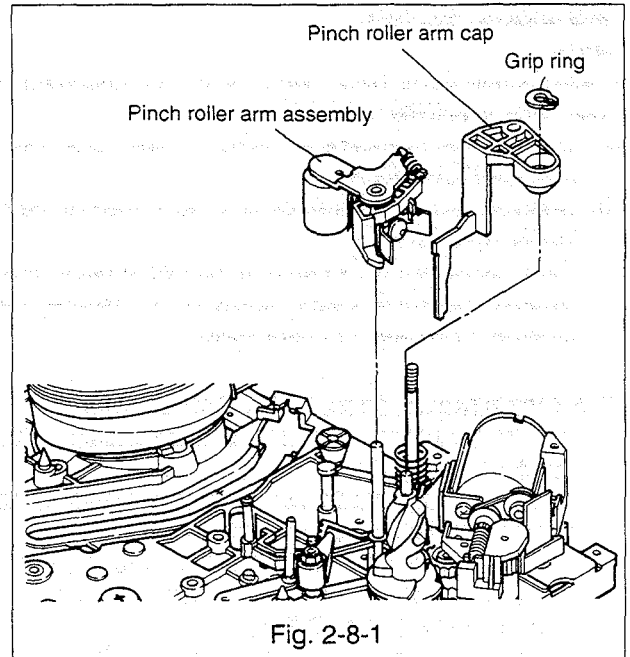

Fig. 2-8-1
### 2-8-1 Removal(Refer to Fig. 2-8-1, 2-8-2.)
- B. Remove the pinch roller arm cap and the grip ring which secures the pinch roller arm assembly. (Refer to Fig. 2-8-1.)
### 2-8-2 Installation(Refer to Fig. 2-8-1,2-8-2.)
- B. Assemble the pinch roller assembly to the shaft on the main plate.(Refer to Fig. 2-8-1.)